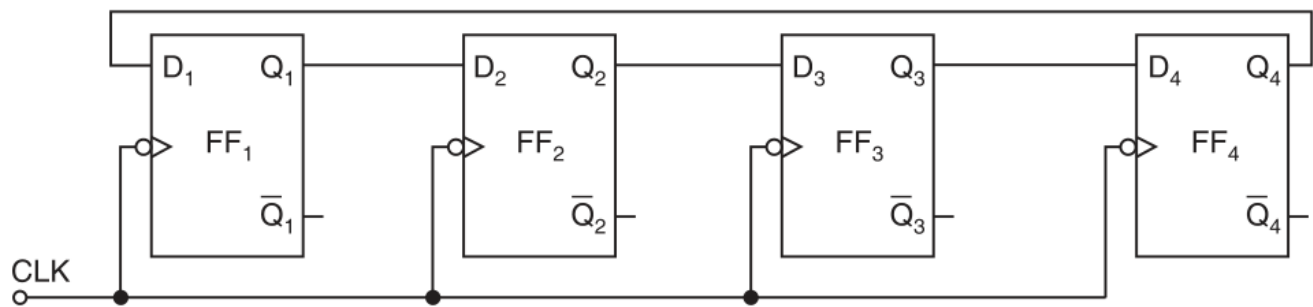

Figure 12.57 Logic diagram of a 4-bit ring counter using D flip-flops.
Source: Kumar (Ch. 12, pp. 697–700, Figures 12.57 & 12.61)
1. The 4-Bit Ring Counter (Kumar, p. 697, Figure 12.57)